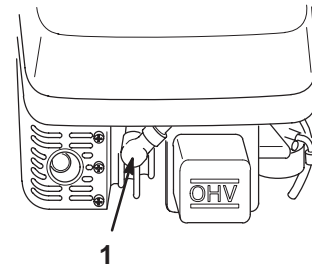

Figure 7
1. Connect the wire to the spark plug (Fig. 7).